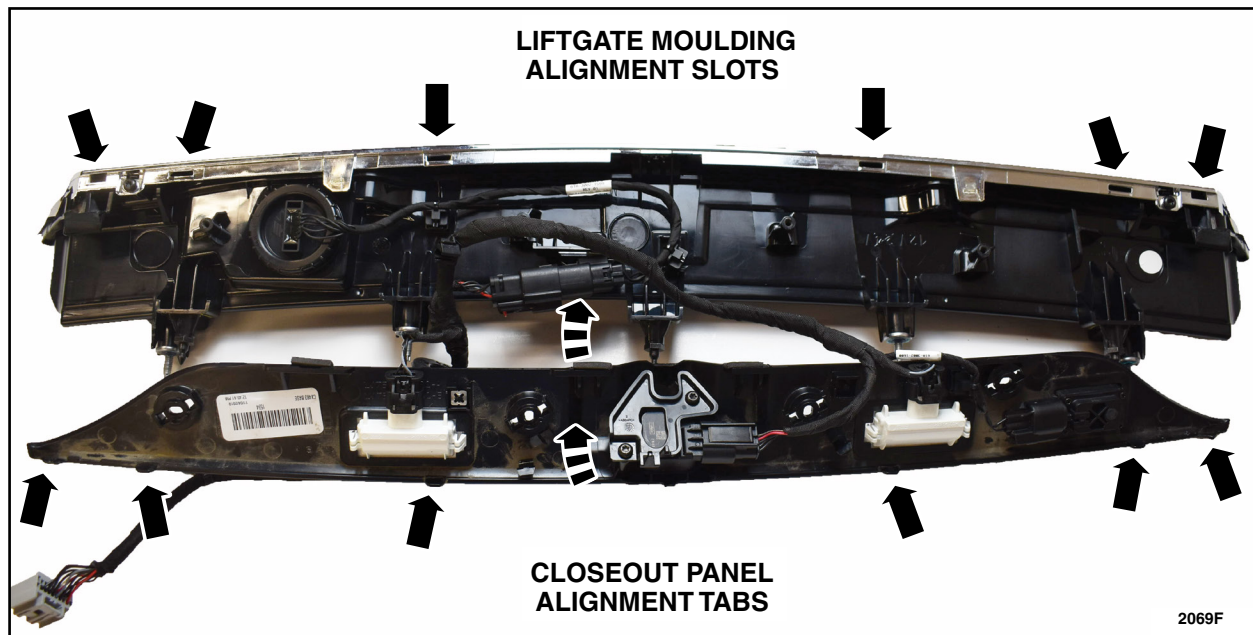

FIGURE 13
10. Align the tabs in the closeout panel with the alignment slots in the liftgate moulding. See Figure 13.